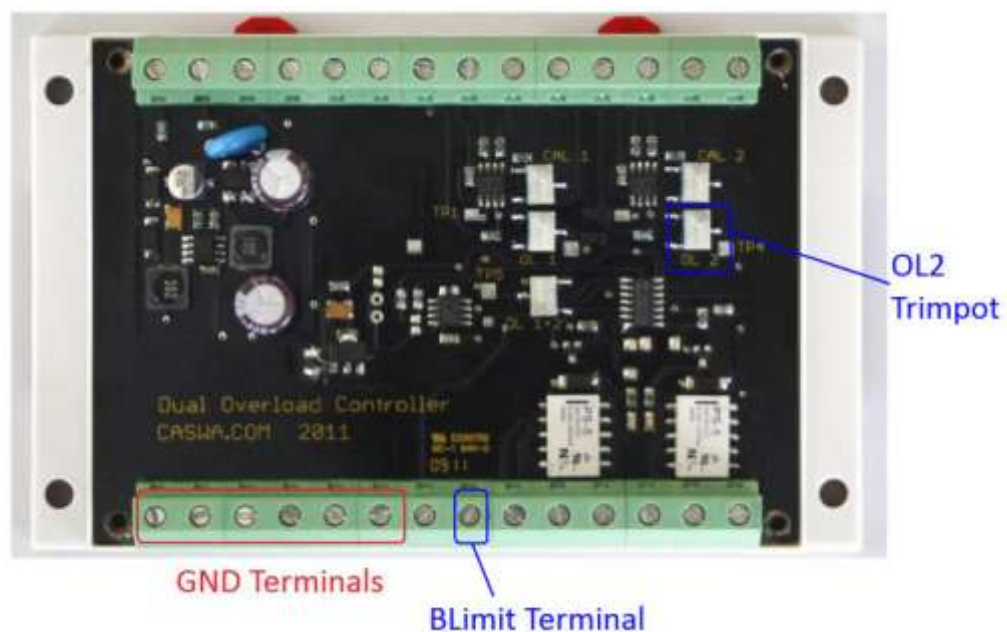

Figure 6: Setting the limit for Hoist B
5. Insert the positive probe into the BLimit terminal on LimitMate (Figure 6).